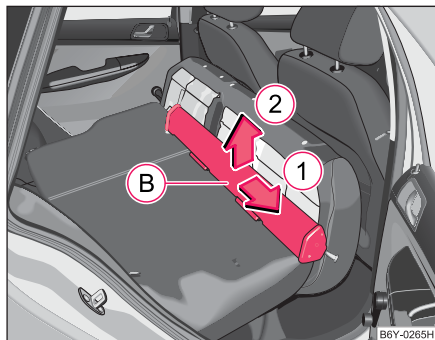

Fig. 61 Rear seats: Net partition housing
- Push the net partition housing **(B)** ⇒ fig. 61 in the direction of arrow **(1)** and take it out of the mounts of the rear seat backrests in the direction of the arrow **(2)**.